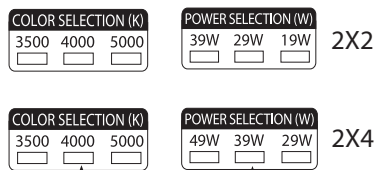

Fig. 5
2. Select a **Color Temperature (CCT)** and/or **Power (W)** by sliding the respective switch to the desired value (Fig 5).